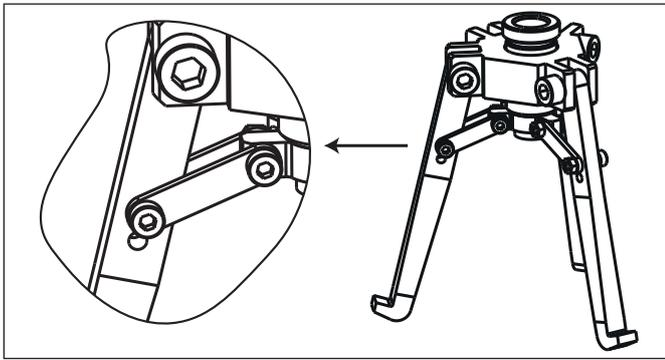

Figure 2: Installation Detail for the Standard Jaw, Internal Configuration
- Use the upper hole in order to install the jaw in the internal configuration. Refer to Figure 2.